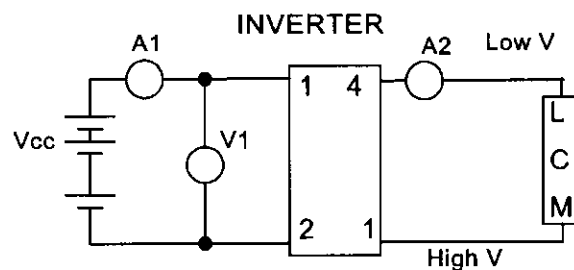

Fig.1 Wiring
- (1) All characteristics are measured by our certain test equipment. The measurement of condition should be stable lighting (more than 30 minutes after startup :at 25+/-1deg and no breath of wind) (The measurement of input rush current is exception.)
- (2) The electrical characteristics are measured as we show on measurement diagram fig.1. $V_{cc}=12V$.
- (3) As we show on measurement diagram fig.1, the test equipment shall be V1:DC Volt meter (Class0.5) A1:DC Current meter(Class0.5) A2:AC Current meter type2016(Y.E.W) or FLUKE45(FLUKE) V_{cc} :DMS35-2.3(Metronix) .
- (4) The line length of between the lamp and 1pin of CN2(high voltage side)is less than 150mm. The line length of between the lamp and 2pin of CN2(low voltage side)is less than 400mm.